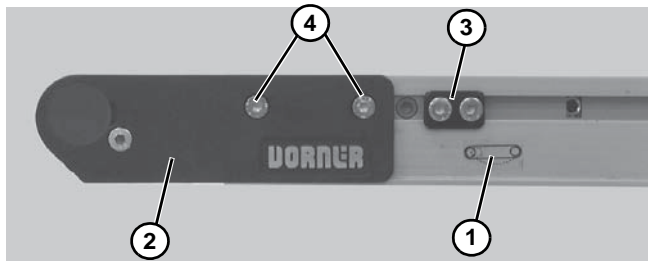

Figure 19
3. On tension end of the conveyor, identified with a  label (**Figure 19, item 1**), push in head plate assembly (**Figure 19, item 2**): On both sides of conveyor, loosen and move cam tracking assemblies (**Figure 19, item 3**) (if equipped) away from head plates, then loosen fastening screws (**Figure 19, item 4**) and push head plate assembly inward.